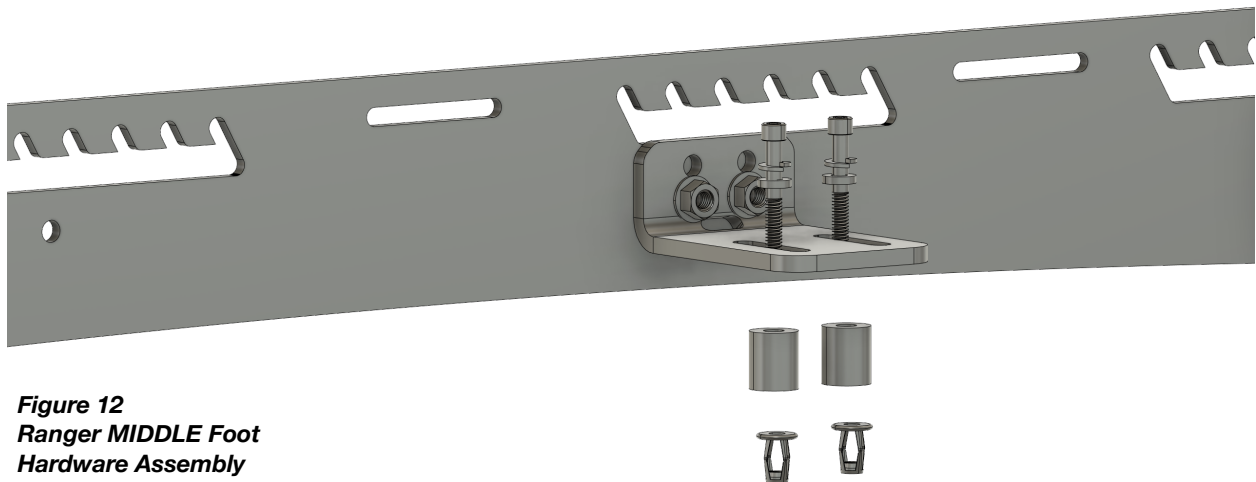

Figure 12
- **Install the MIDDLE feet hardware (55 mm bolts) as shown in Figure 12**